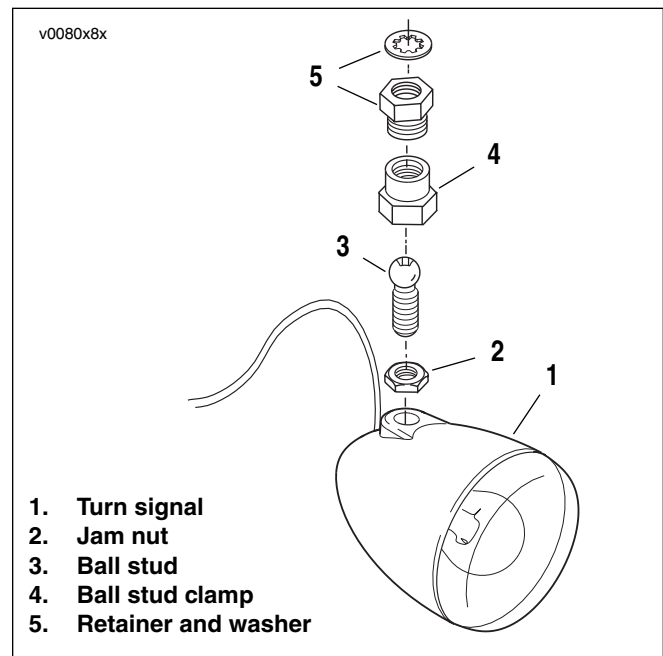

Figure 8-30. Front Turn Signal Mounting
5. See Figure 8-30. Hold retainer and loosen ball stud clamp to remove turn signal.